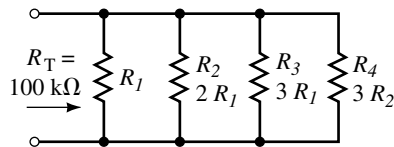

FIGURE 6-62
16. Refer to the network of Figure 6-62: